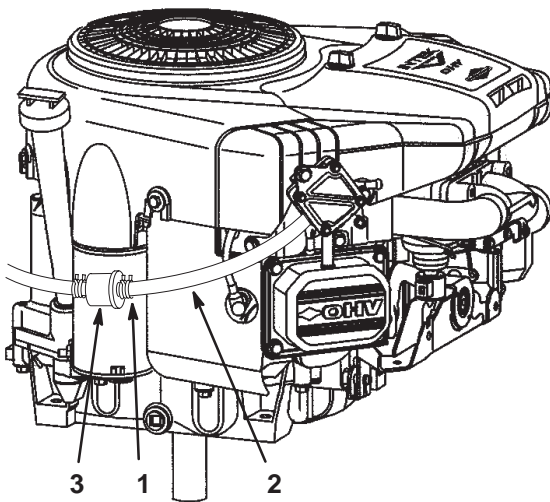

Figure 31
7. Squeeze the ends of the hose clamp together and slide it up the fuel line toward the fuel tank (Fig. 31).
8. Pull the fuel line off the fuel filter (Fig. 31) and allow gasoline to drain into a fuel container or a drain pan.
Replace the fuel filter after every 100 operating hours or yearly, whichever occurs first. The best time to replace the fuel filter (Fig. 31) is when the fuel tank is empty. Never install a dirty fuel filter after it has been removed from the fuel line.
7. Squeeze the ends of the hose clamps together and slide them away from the old fuel filter (Fig. 31).